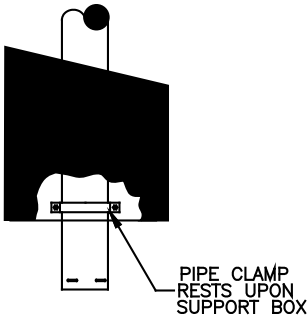

Figure 33
8. Place the Support Clamp, included with Support Box, loosely around Pipe Sections running through hole in Support Box **(Figure 33)**.
10. After all Pipe Sections and components are assembled and connected down to the appliance seal and secure the Appliance Adapter to stove. Using a level, make slight adjustments in the position of the appliance until the pipe is truly vertical. Tighten the bolts in the Support Clamp **(Figure 33)**. Note that